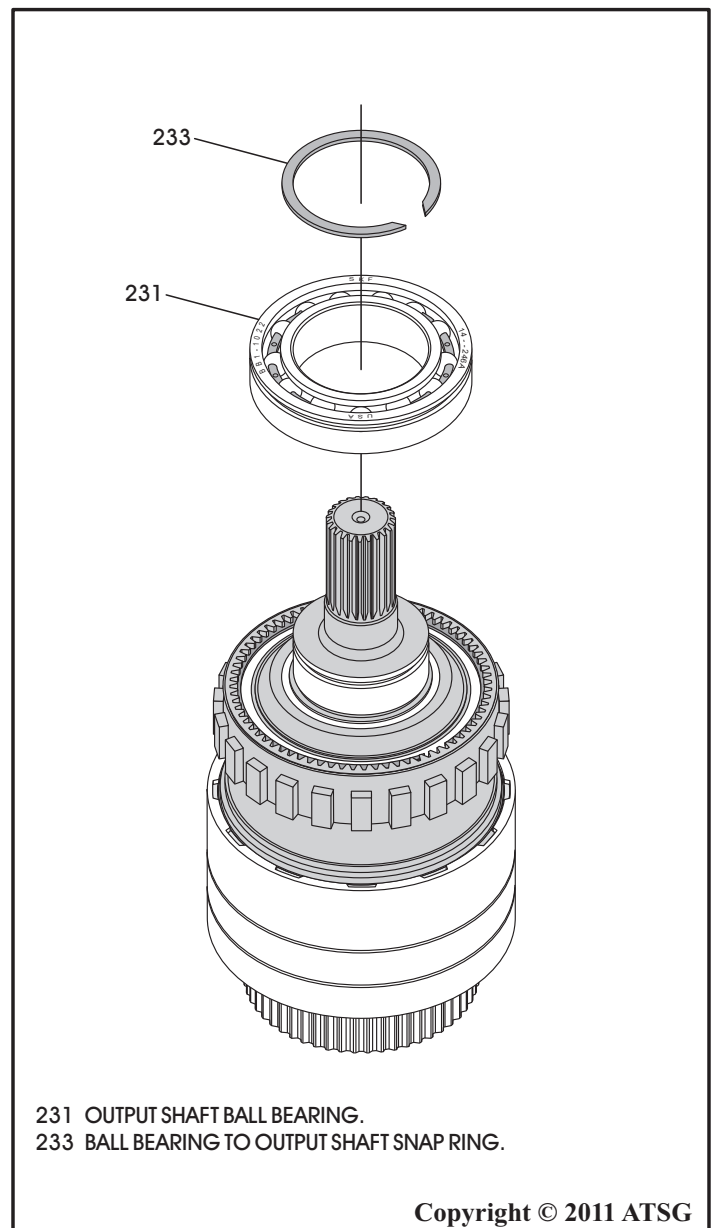

Figure 153
15. Remove the snap ring from the output shaft that retains the ball bearing, as shown in Figure 153.
16. Remove the output shaft ball bearing, as shown in Figure 153.